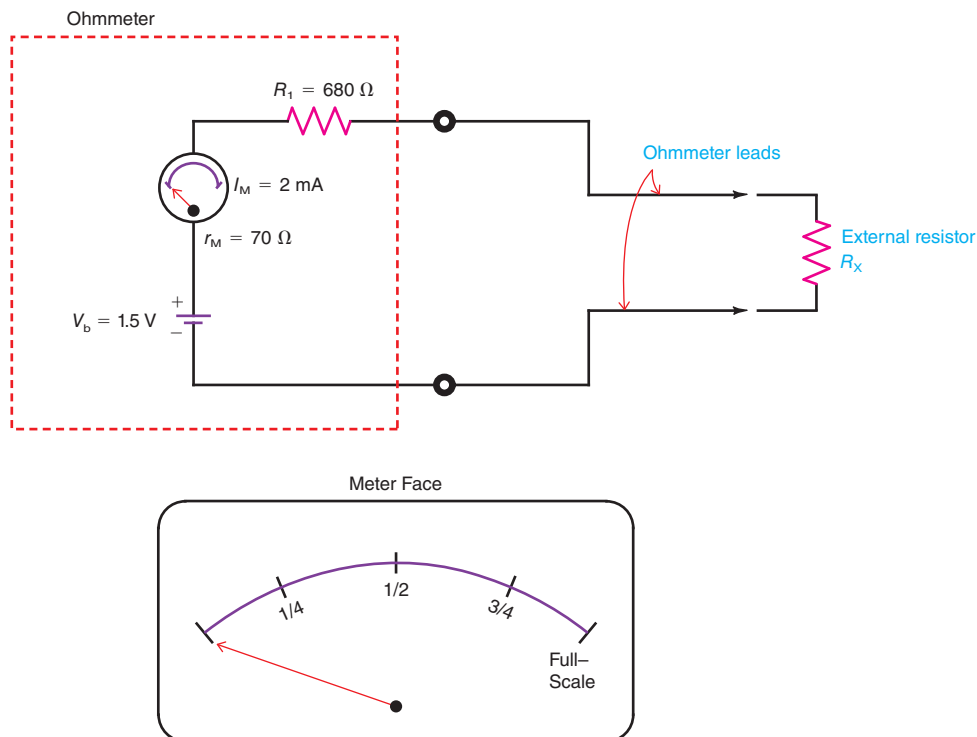

Figure 12-26
- 12.11** Figure 12-26 shows a series ohmmeter and its corresponding meter face. How much is the external resistance, R_x , across the ohmmeter leads for (a) full-scale deflection; (b) three-fourths full-scale deflection; (c) one-half-scale deflection; (d) one-fourth full-scale deflection; (e) no deflection?
- 12.12** For the series ohmmeter in Fig. 12-26, is the orientation of the ohmmeter leads important when measuring the value of a resistor?